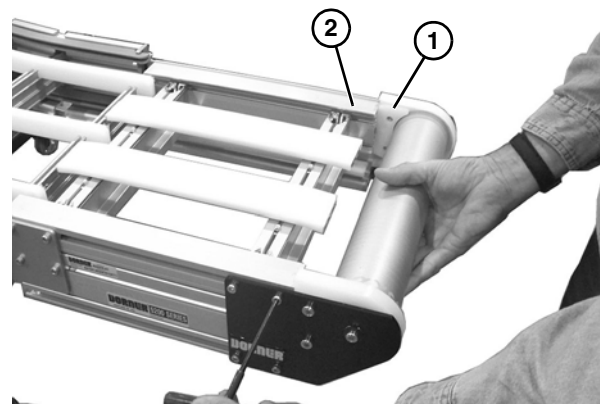

Figure 45
When reinstalling the idler spindle tail assembly, the idler terminal assembly (Figure 45, item 1) should mate flush with the conveyor frame (Figure 45, item 2).